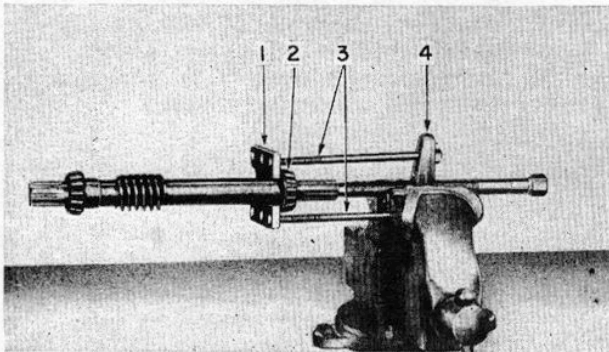

FIG. 31—REMOVING BEARING FROM TRANSMISSION SHAFT
- d. To remove bearings from worm drive shaft, use Plate GP-6 and Puller GP-18 as shown in figure 31.